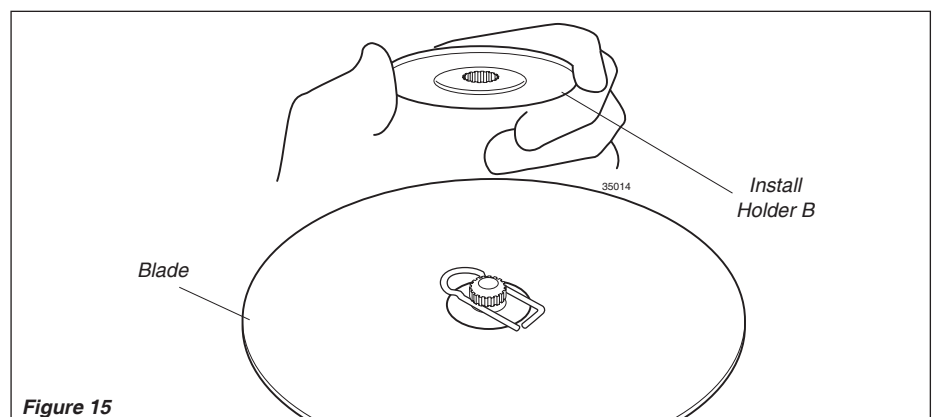

Figure 15
6. Install Holder B on the gearcase shaft. See Figure 15.